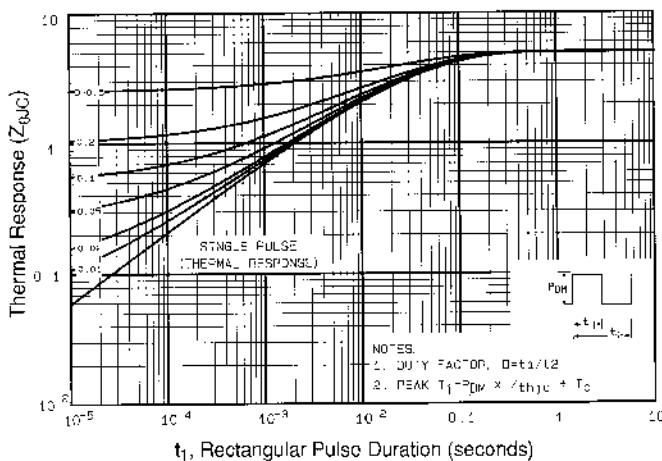

Fig 11. Maximum Effective Transient Thermal Impedance, Junction-to-Case
① Repetitive rating; pulse width limited by max. junction temperature (See Figure 11)
④  $I_{SD}\leq 4.0\text{A}$ ,  $dI/dt\leq 75\text{A}/\mu\text{s}$ ,  $V_{DD}\leq V_{(\text{BR})\text{DSS}}$ ,  $T_J\leq 150^\circ\text{C}$
②  $V_{DD}=-25\text{V}$ , starting  $T_J=25^\circ\text{C}$ ,  $L=21\text{mH}$